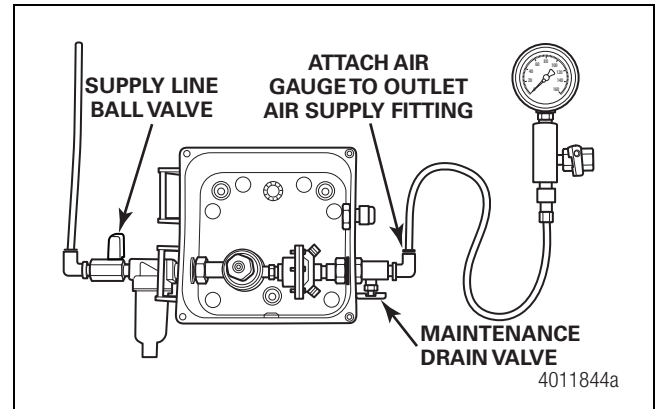

Figure 3.11
2. Turn the supply line ball valve to the closed position. Figure 3.11.
3. Open the maintenance drain valve to deplete all air pressure from the system. Close the valve. Figure 3.11.
4. Remove the outlet air supply line from the fitting on the air pressure outlet side of the control box. Connect the test gauge to the outlet air supply fitting. Figure 3.11.